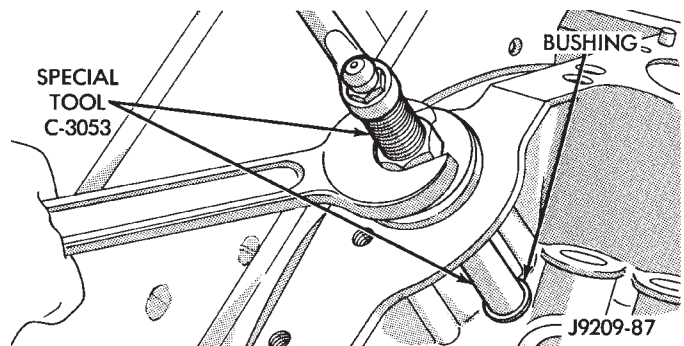

Fig. 29 Burnishing Distributor Driveshaft Bushing
- (3) As the burnisher is pulled through the bushing, the bushing is expanded tight in the block and burnished to correct size (Fig. 29). **DO NOT ream this bushing.**